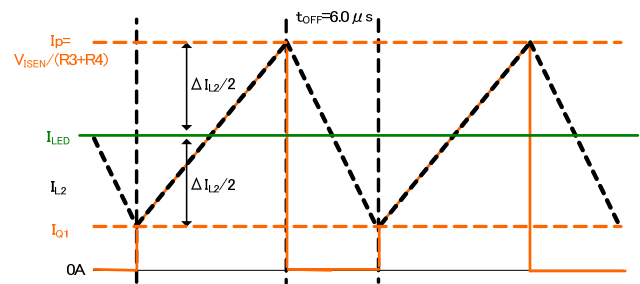

Fig.30 MOSFET Current, Coil , LED Current
The MOSFET current, coil current, and LED current in continuous mode in a non-isolated circuit are shown in Fig. 30. The LED current is the average value of the coil current, and thus by using the resistance values calculated in Equation (13) for the sensing resistors R3 and R4, the LED current can be adjusted to the target value.